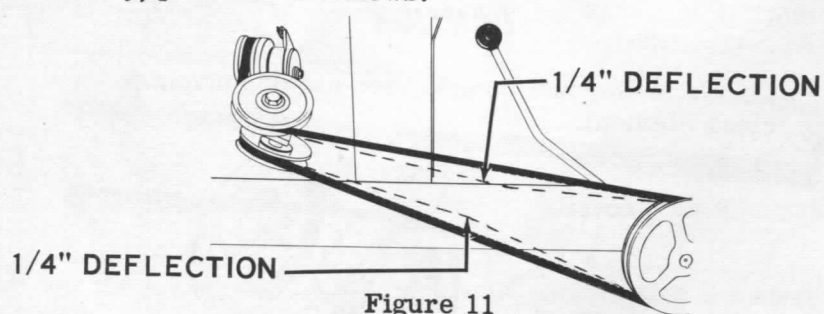

Figure 11
**NOTE** Check the transmission drive belt for proper adjustment monthly or every 100 hours of operation. The belt is under proper tension if normal finger pressure (about ten pounds) deflects the belt approximately  $\frac{1}{4}$ " midway between the pulleys. (See Figure 11.) The tension can be checked by depressing the lower belt section without removing the guard. If readjustment or replacement is necessary, proceed as follows: